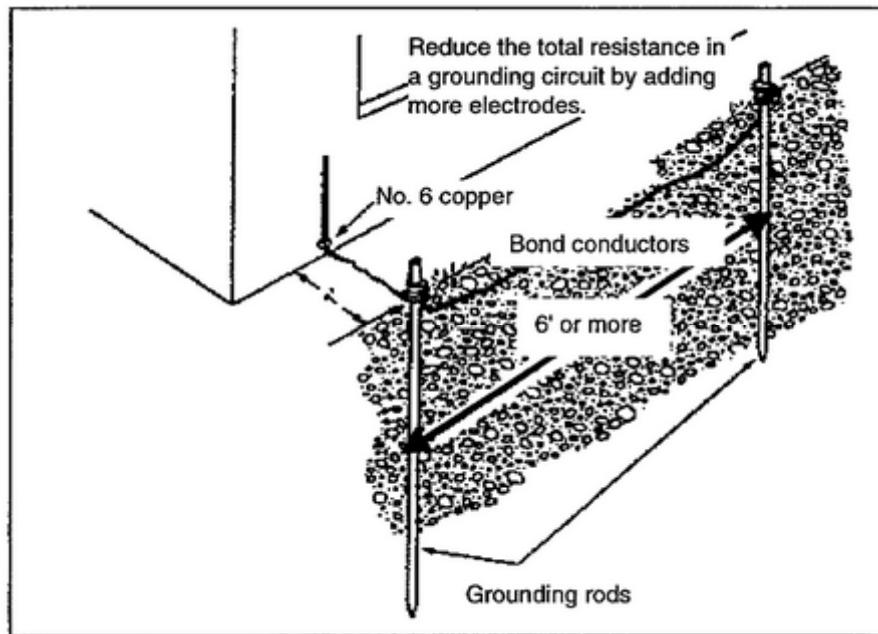

Figure 1-13. Additional grounding rods
a. Drive additional 8-foot grounding rods into the earth and bond them together. The rods must be at least 6 feet apart (Figure 1-13).